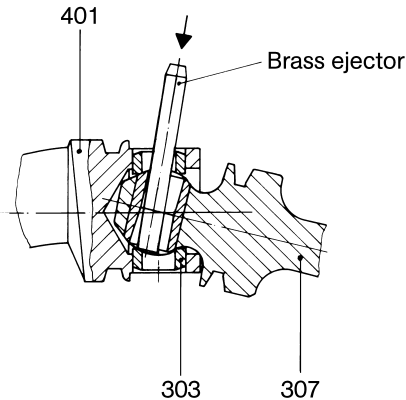

Figure 4: Dismounting the bushes for coupling rod pin.
- Eject coupling rod pin (301).
- By means of a brass ejector, drive out the two bushes for coupling rod pin (303) by one half. For these purposes, incline coupling rod (307) (please refer to Figure 4 below).